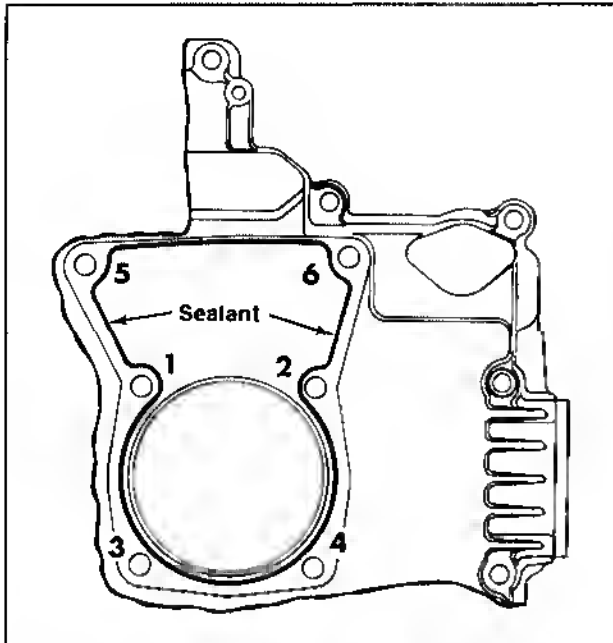

Figure 11-30. Cylinder Barrel Sealant Pattern/Cylinder Barrel Fastener Torque Sequence.
2. Apply a 1/16" bead of sealant to the crankcase as shown in Figure 11-30. Follow the sealant manufacturer's recommendations regarding setting.
6. Install the plain washers and hex. nuts. Torque hex. nuts #1 and #2 to 100 in. lb. Torque the remaining hex. nuts to 100 in. lb. in the most expedient sequence. Refer to Figure 11-30.